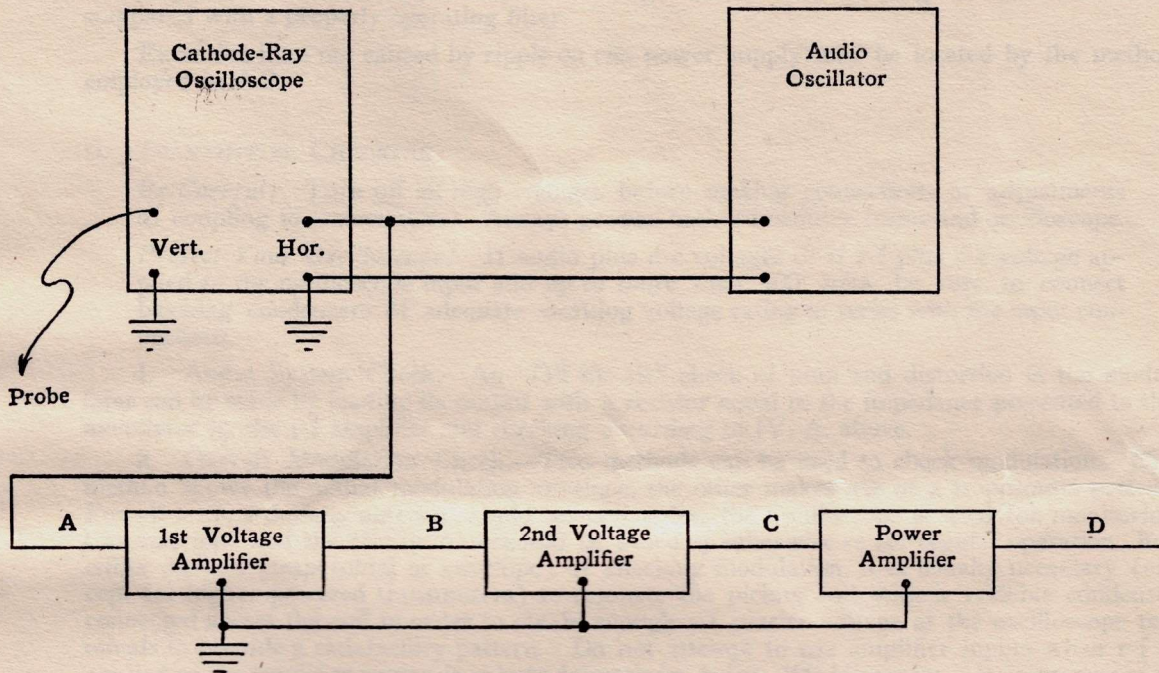
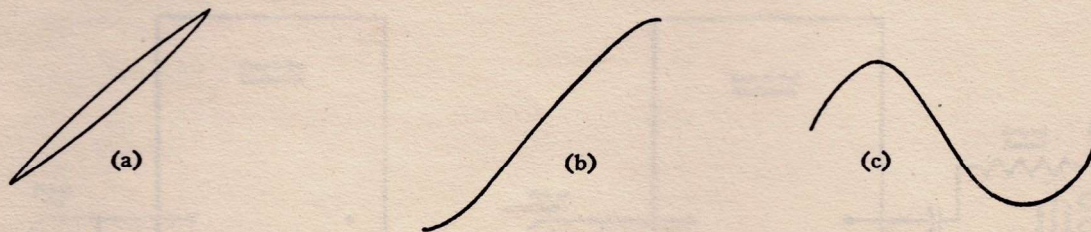

Fig. 1 Audio Circuit Analysis Connections
Fig. 2 Phase and Amplitude Distortion
1. Without Sawtooth Sweep.—The oscilloscope and an audio oscillator are connected as shown in figure 1. The COARSE FREQUENCY control on the oscilloscope is turned to its maximum counterclockwise, OFF, position, and the r.m.s value of the oscillator output is maintained at a voltage not in excess of 60% of the bias on the input tube of the audio circuit. The probe is connected to point A of figure 1, the pattern on the oscilloscope observed,
2. With Sawtooth Sweep.—Connections are the same as figure 1 except for the removal of the lead to the HOR INPUT of the oscilloscope. The sweep should be adjusted to display two or three cycles of the test signal. Flattened or rounded peaks, as in figure 2 (c) indicate overloading. Distortion of only one peak may indicate incorrect biasing.